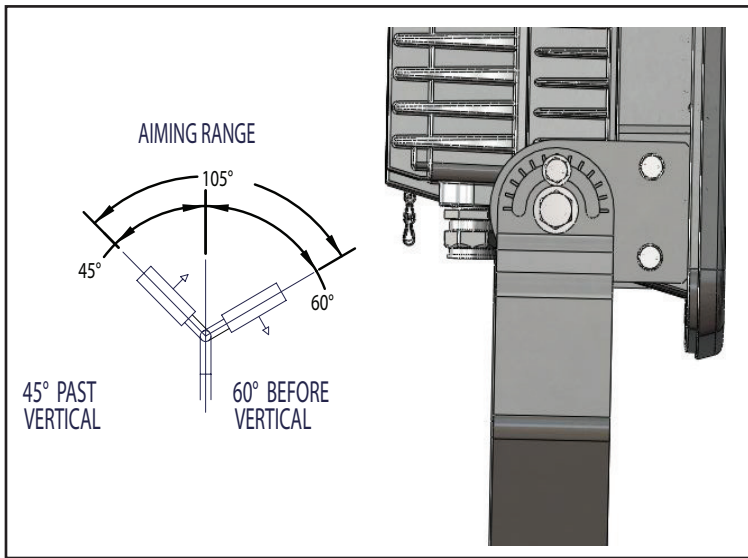

Figure 3
2. Re-install the back panel and tighten all eight (8) panel mounting screws to 80 in-lbs (9.0 N-m).
3. To make final vertical adjustment, loosen the pivot bolts on the floodlight yoke to position floodlight at the desired angle (limited to 60 degrees forward and 45 degrees back, as shown in Figure 3).